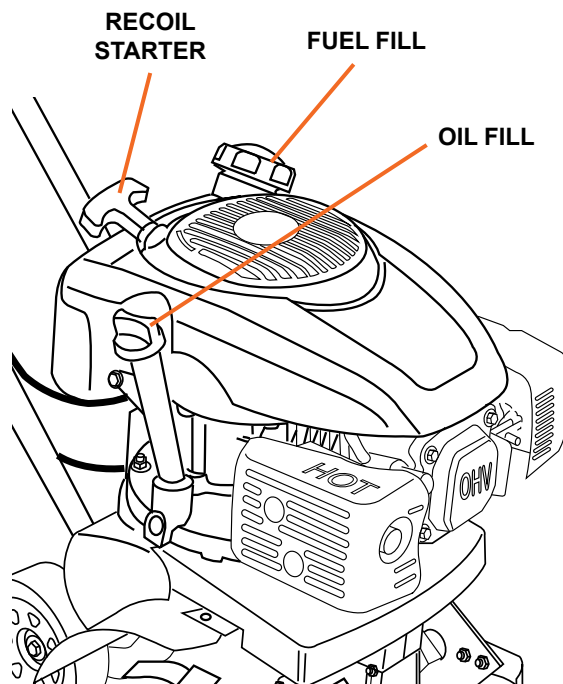

Figure 9
1. Add oil according to engine manual. Do not overfill. Use SAE30 engine oil. **Do not mix oil with gasoline.** Oil level must be full. Check the oil level by removing oil fill plug (see Figure 9). Oil level should be up to the bottom of the fill plug opening.